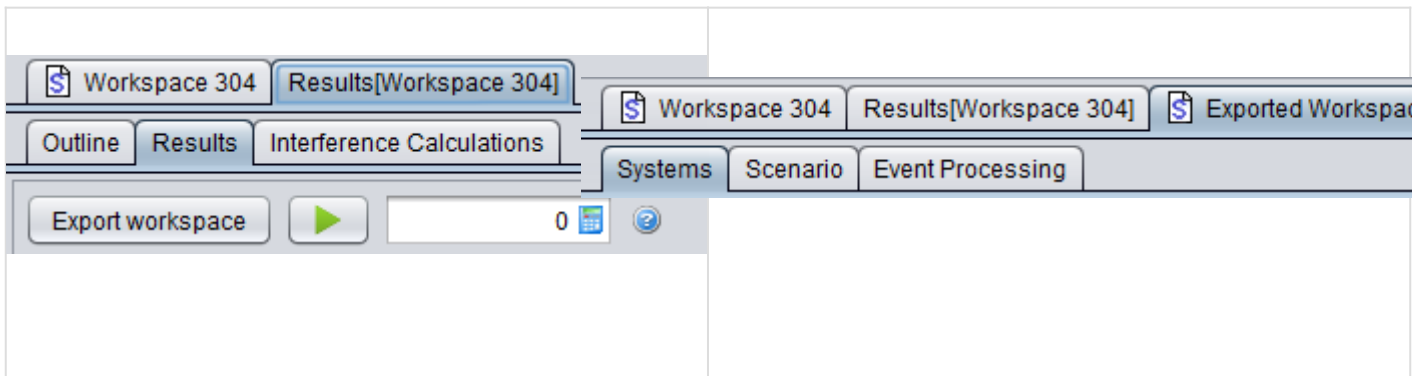

Figure 26: Illustration of how to create or open a workspace
1. Set the technical characteristic of the various systems that you want to investigate. In the example of Figure 26 the first system is Generic and the second one is an OFDMA UL system. Do not forget to export the systems used to the library environment so that they can be reused at a latter point of time.